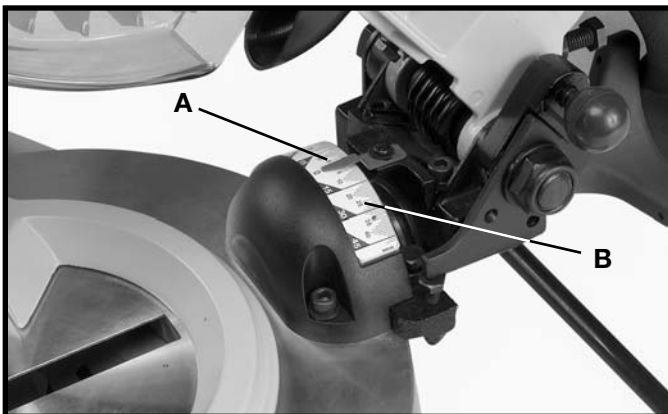

Fig. 21
Positive stops are provided to rapidly position the saw blade at 0 and 45 degrees to the table. Refer to the section of this manual titled “**ADJUSTING 0 AND 45 DEGREE BEVEL STOPS.**” The bevel angle of the cutting arm is determined by the position of the pointer (A) Fig. 21, on the scale (B). **NOTE: Engage the 0 degree positive stop when making all cuts other than bevel cuts.**